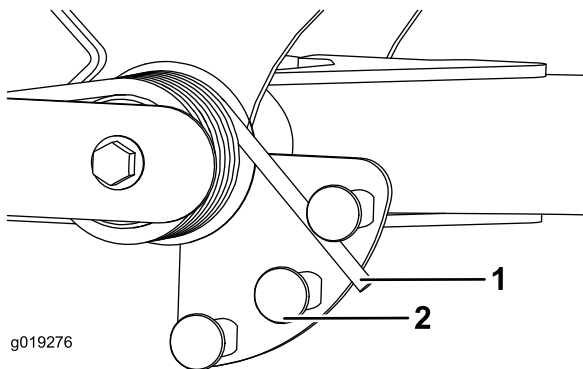

Figure 34
2. Insert a tube or similar object onto the long spring end and pivot it around the spring actuator to the desired position (Figure 34).